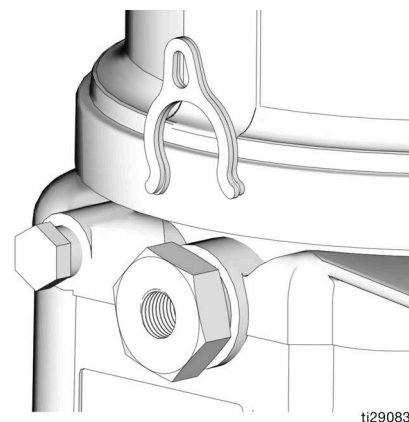

FIG. 12
6. Use a wrench to turn the pump element counter-clockwise to loosen. Do not remove the entire pump element. Only back the pump element out enough to allow a spacer to be slid on or off. (FIG. 12).
The pump volume control is set using no spacers, one (1) or two (2) spacers (FIG. 12).